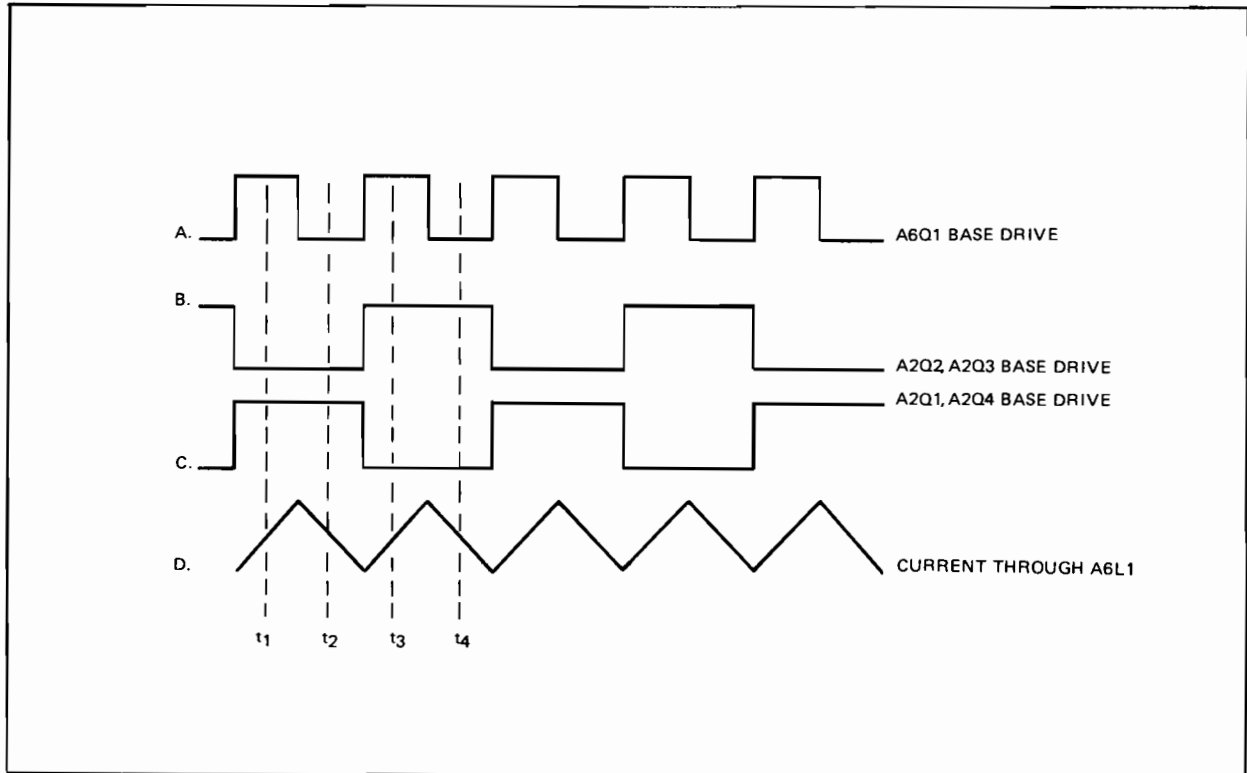

Figure 3-10. Timing Waveforms
The remainder of this section covers the interaction of the Inverter and the preregulator boards at four time intervals (see Figure 3-10). It also covers the Inverter and the preregulator boards in detail (duty cycle control).
a. Time T1 (see Figure 3-10).
b. Time T2 (see Figure 3-10).
c. Time T3 (see Figure 3-10).
d. Time T4 (see Figure 3-10).